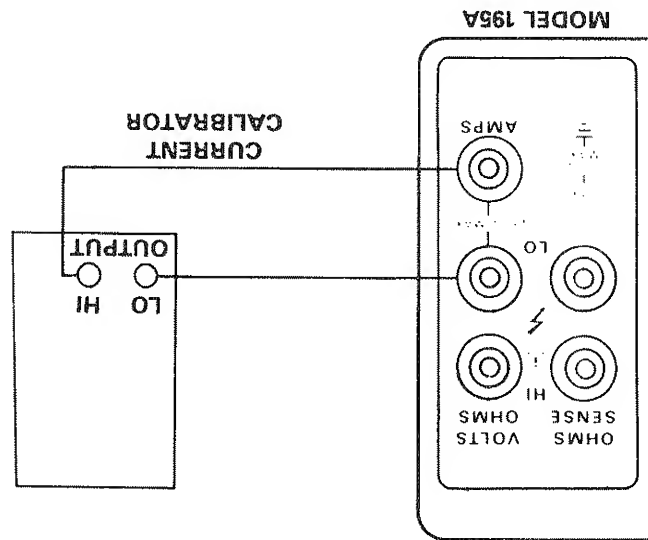

Figure 7-6. Current Calibration Connections
- Connect the calibrator to the Model 195A as shown in Figure 7-6.